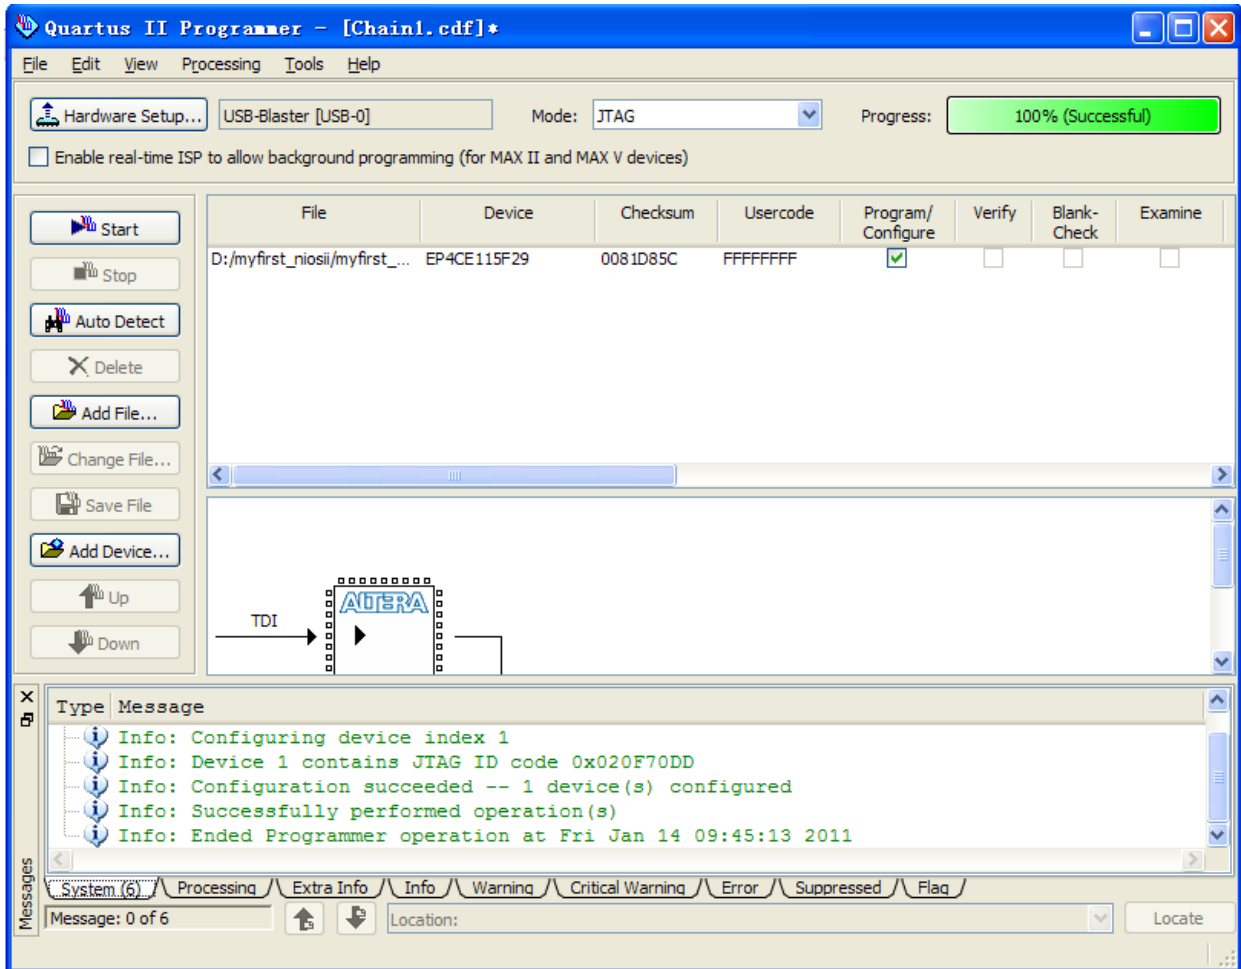

Figure 7-54 Quartus II Programmer
15. Turn on the **Program/Configure** option for the programming file (see Figure 7-54 for an example).